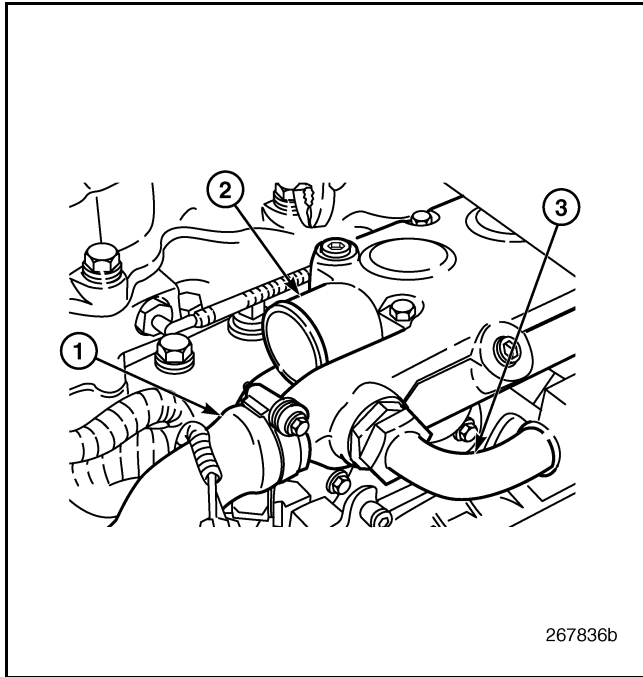

Figure 142 — Thermostat Housing Hose Connections
1. Loosen the hose clamp and disconnect the by-pass hose at the front of the thermostat housing and remove the by-pass tube from the engine (Figure 142). The radiator hose and hose from the surge tank should already have been removed when removing the engine from the vehicle.